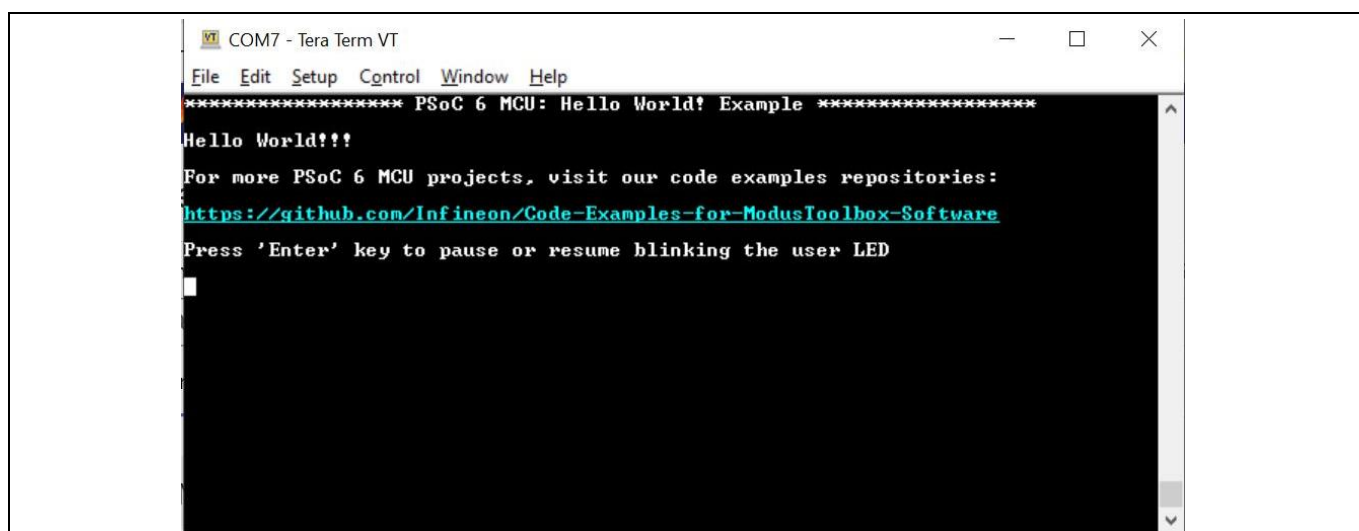

Figure 15 “Hello World” message in the terminal
3. Press the reset button (SW1) on the board and confirm that terminal application displays code example title and other text Figure 15.